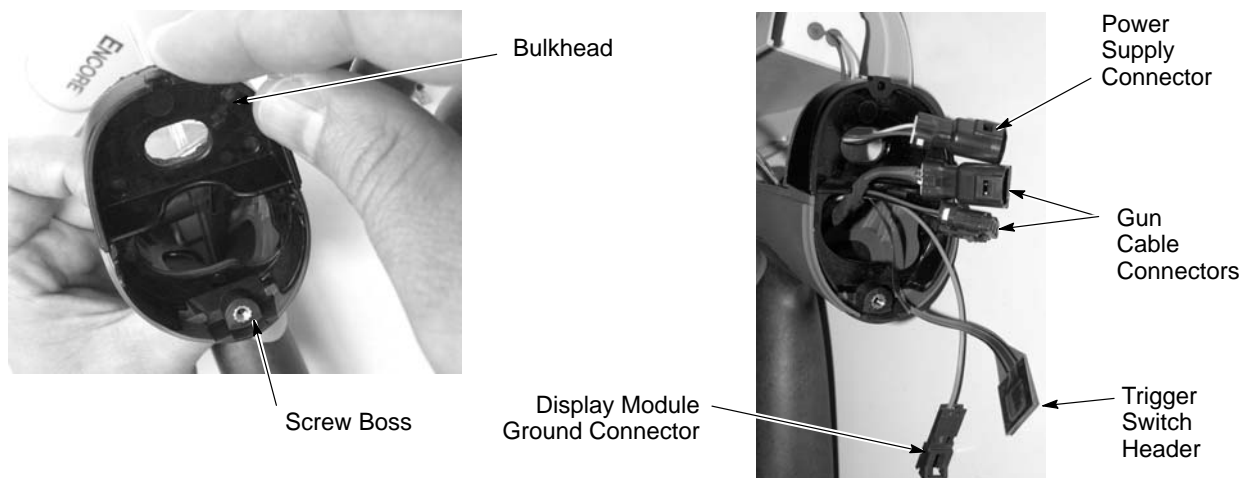

Figure 5-14 Assembling Bulkhead and Routing Cables
14. See Figure 5-14. Position the lower edge of the bulkhead behind the screw boss in the rear of the handle assembly and rotate the top of the cover forward until it snaps into place on the handle and gun body.